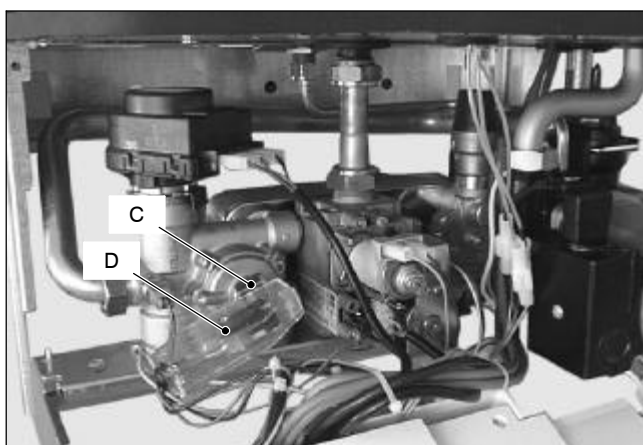

Fig. 48
- 2 Remove the fork C (Fig. 48).
- 2 Remove the fork C that holds the micro-switch housing D (Fig. 48).